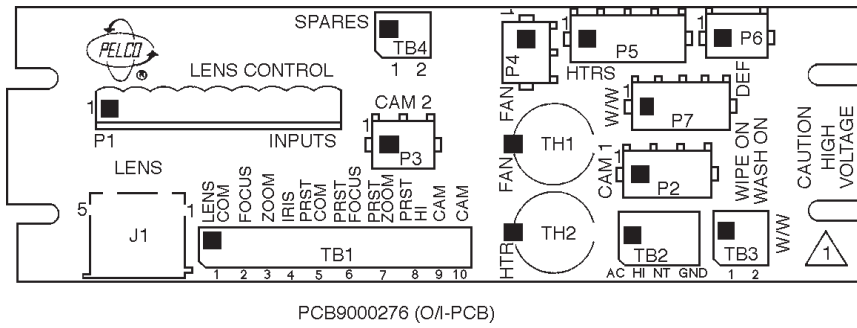

Figure 8. Component Locations for Optional Circuit Board (O/I-PCB)
- If your enclosure has the O/I-PCB circuit board (PCB9000276), connect the wire to the LENS COM connector (refer to Figure 8).
AC High	Pin 1 of TB2 on the O/I-PCB circuit board (refer to Figure 8)